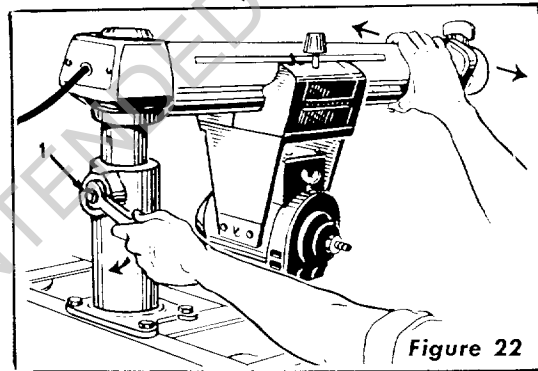

Figure 22
1. Adjust by tightening Key Plug (Item 1, figure 22) using Shaft Wrench (Item 2, figure 5) with the left hand while moving the Radial Arm slightly from side to side with the right hand (Figure 22).